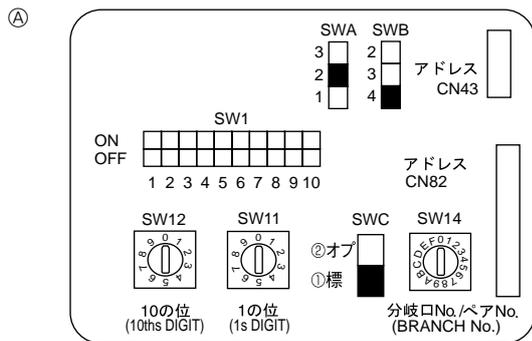

Fig. 4-4
4.6. Switch setting for high ceiling or at the time of changing the number of air outlets (Fig. 4-4)
④ 4 direction	2.7 m	3.2 m	4.5 m
③ 3 direction	3.0 m	3.6 m	4.5 m
② 2 direction	3.3 m	4.0 m	4.5 m
4.7. Sensing room temperature with the built-in sensor in a remote controller (Fig. 4-4)
4.5. Setting addresses (Fig. 4-4)